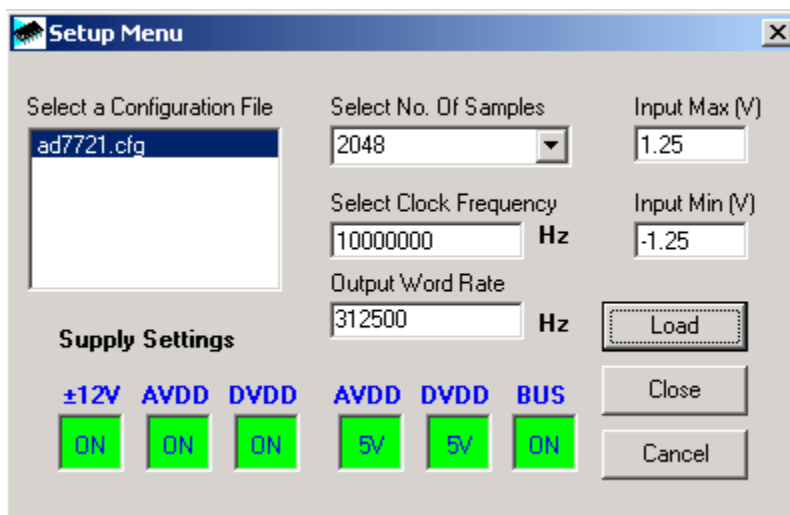

Figure 4. Setup Menu Screen
The Setup Screen is responsible for allowing the user to load a configuration file for the evaluation board. The configuration file will give the software detailed information about the evaluation board and the part connected to the Eval-Control Board such as number of bits, maximum sampling rate, power supply requirements, etc. The configuration file also tells the software the name of the DSP program file which it should download to the Eval-Control Board, the default and maximum sample frequencies, the number of samples to take and the power supply settings to use. These files are supplied by Analog Devices with the evaluation board and the AD7721 configuration file (AD7721.cfg) is shown in Listing 1. Figure 4 shows the setup screen.
**Setup Menu:** Selecting this option displays the Setup Screen as shown in Figure 4.